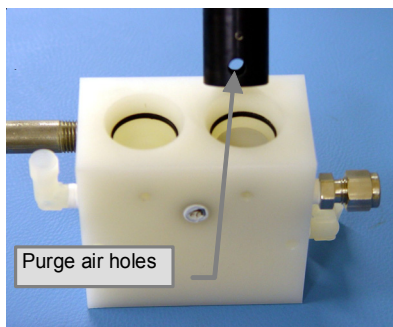

Figure 17
- b. Skip this step for dual element dryers. For a single element dryer: Insert the end of the empty shell into the bore of the coupling fitting that has the header plug residing in it. (**Important! - Position the purge air holes as shown on the drawing**). Press the assembly into place in the coupling fitting. (See Figure 17)